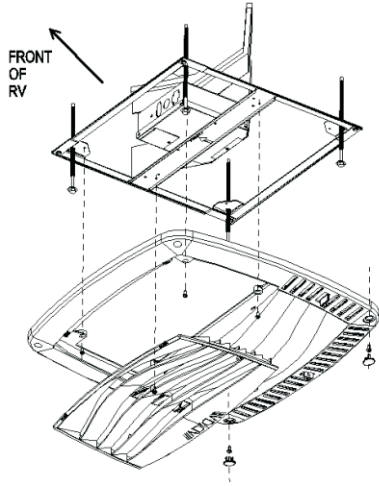

FIG.9
- Position the mount frame into the ceiling opening. See Figure 9.
- Connect 115VAC and 12VDC wires, Freeze Sensor Thermistor, Heat Pump specific (Outdoor Coil Thermistor, Outdoor Ambient Thermistor), and thermostat cable according to the wiring diagram. Install the cover over the electrical box using the small screw provided as shown in Figure 9.